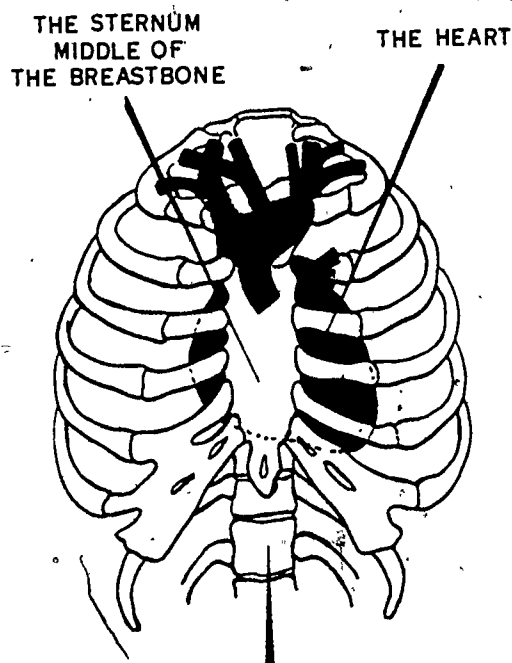

Figure 2-6. Heart and thoracic cage.
5. Place the heel of your right hand on the breastbone of the patient, with fingers spread and raised so that pressure is only on the breastbone, but not on the ribs (see figure 2-6). Place your left hand on top of the right, and press vertically downward—apply enough